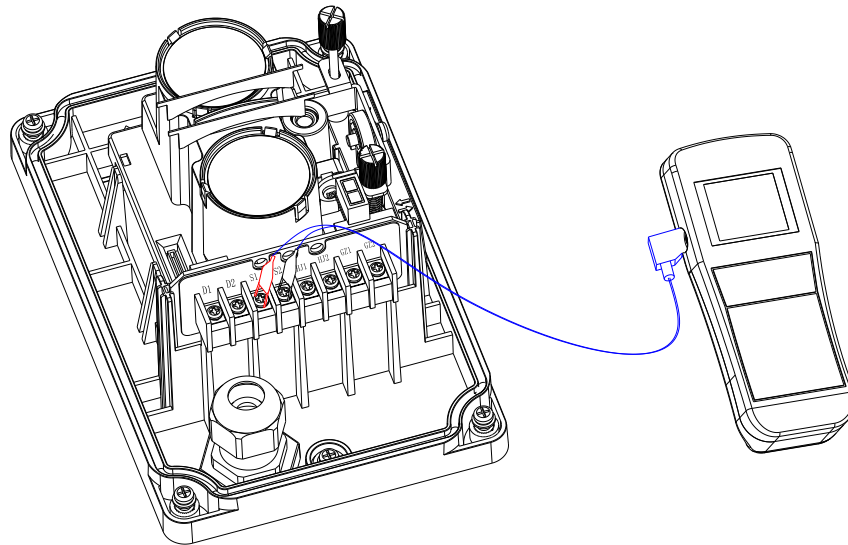

Figure 8: Connection with the programmer
1. Connect the programming cable to S1 and S2 terminals. Polarity is not required and detector must be powered off. Refer to Figure 8.